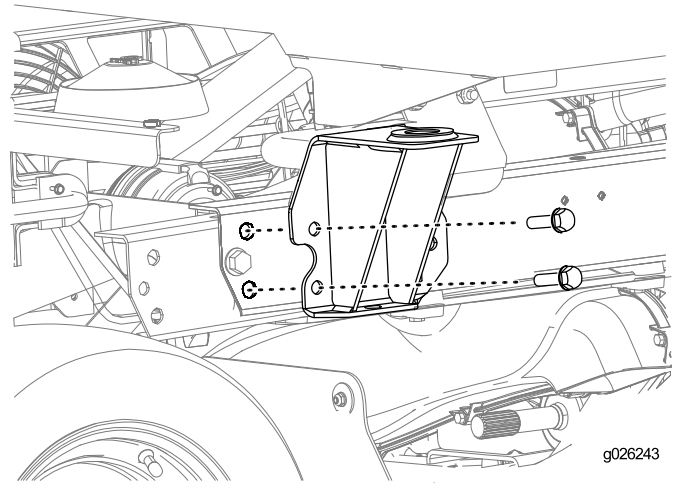

Figure 25
1. Install the rear brackets on the machine (Figure 25) using the hardware removed from the ROPS in Removing the ROPS Assembly (page 6).